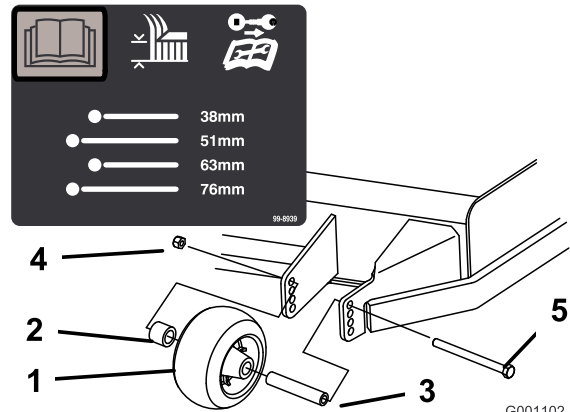
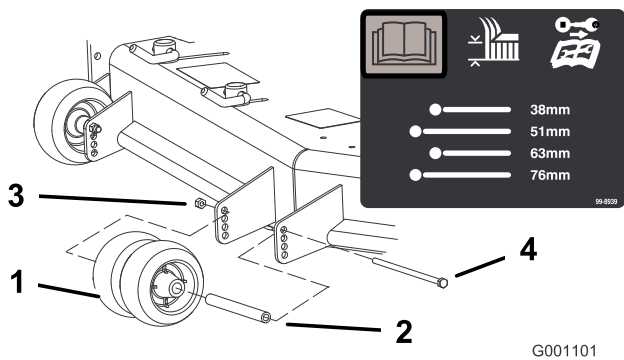
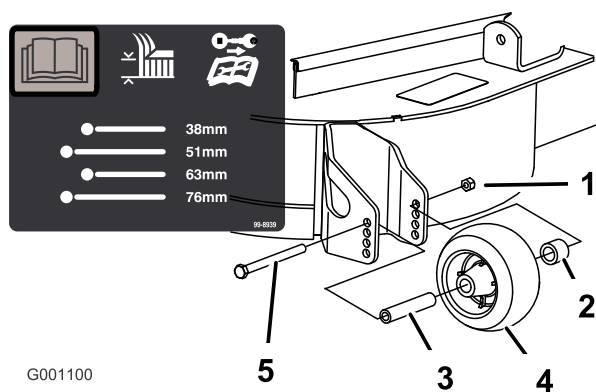

Figure 20
Figure 21
Figure 22
3. After adjusting the height of cut, adjust the rollers by removing the flange nut, bushing, spacer, and bolt (Figure 20, Figure 21, and Figure 22).
Note: The 2 middle rollers do not have a spacer (Figure 21).
5. Install the flange nut, bushing, spacer, and bolt. Torque the bolt to 54 to 61 N·m (40 to 45 ft-lb) (Figure 20, Figure 21, and Figure 22).